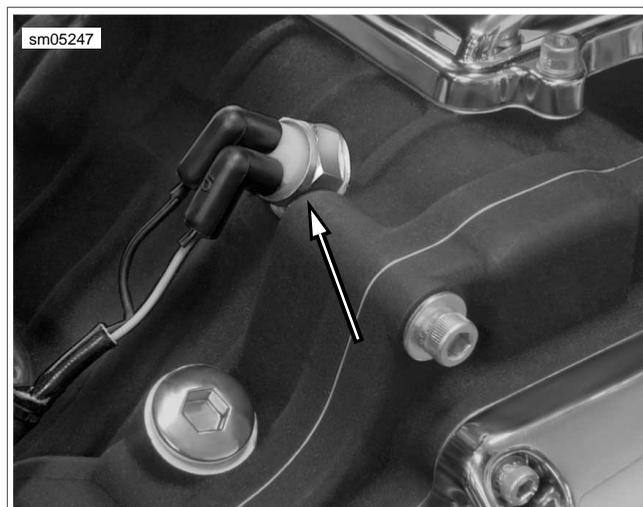

Figure 8-82. Neutral Switch
2. Remove two elbow connectors from neutral switch posts. See Figure 8-82.